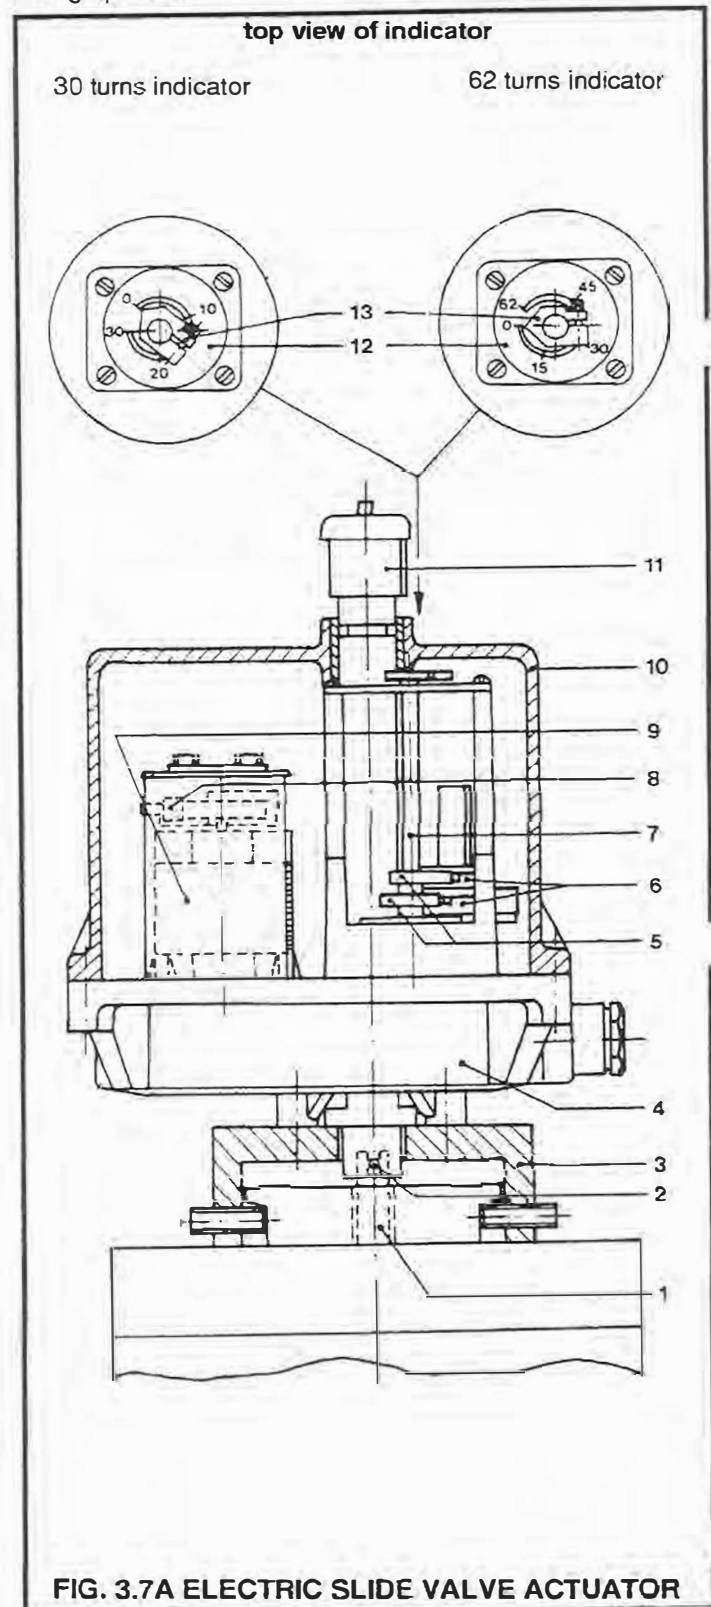

FIG. 3.7A ELECTRIC SLIDE VALVE ACTUATOR
Fig. 3.7A represents a longitudinal section of the electric slide valve actuator. It consists of a small reversible electric motor (9) with brake mechanism (8) and speed reducer (4) which drives in either direction a central output shaft (11) and a cam post (7), all mounted inside an aluminium housing (10), which on its turn, is bolted by means of an intermediate bush (3) to a disc on the hydraulic cylinder of the compressor, so that the output shaft is coupled via a carrier pin (2) in line with the compressor regulating shaft (1).
Inside the housing (10) in fig. 3.7A a terminal strip is fitted, which is factory wired to the standard limit switches and adjusting motor. Fig. 3.8B shows this terminal strip and the internal electric wiring diagram. In principle all external wiring remains to be carried out by the installer in the field. Only in case the package is provided with a control cabinet all the electric wiring has been done by the manufacturer according to the wiring diagram in Paragraph 3.6.